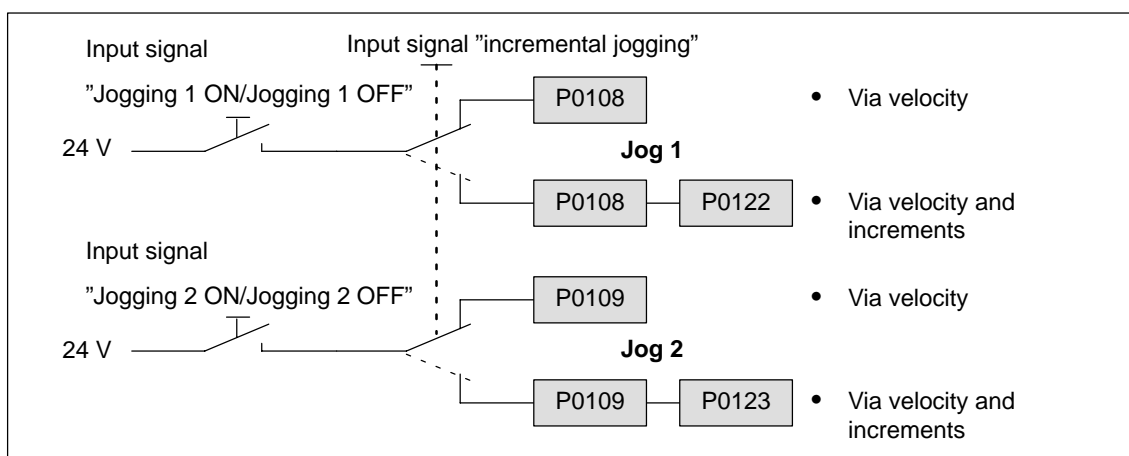

Fig. 6-22 Jogging: Via velocity or incrementally
**Changing over into the jogging mode** The jogging mode can be selected using the input signal "jogging incremental" (refer to Fig. 6-22):